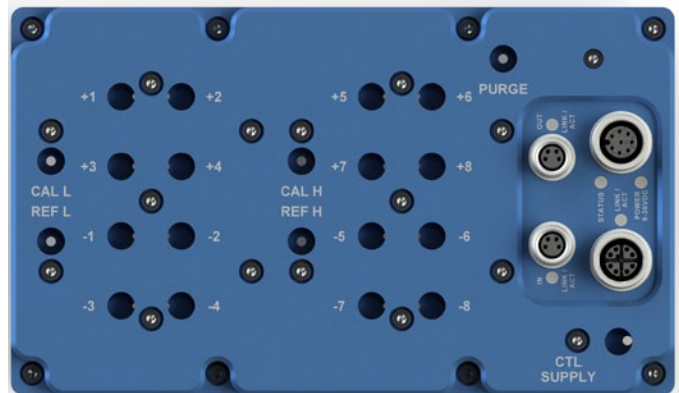

FIGURE 2.5 - DSA5000 DUAL RANGE, TRUE DIFFERENTIAL 8DDR TOP VIEW
where two pressure ranges are required, the DSA5000 Dual Range, True Differential 8DDR provides two (2) ports for each sensor, and 8 channels total (16 total inputs). They are arranged into two (2) groups of four (4) transducers. Each group can be of a different pressure range. A calibration valve is provided for each group of four (4) sensors. Similar to the True Differential module, each group of transducers has a dedicated calibration valve that allows the input pressures to be blocked off during any calibration, including a zero offset calibration (CALZ). In calibrate mode, the reference (negative inputs) will be shorted to a single reference port per group. Like the Dual Range 8DR module, the common ports are labeled CAL H and REF H (high, channels 5-8), and CAL L and REF L (low, channels 1-4). Standard configuration will place the lower pressure range in the “low” side, channels 1-8. This can be altered at the customers request. Figure 2.5 depicts the top panel of a DSA5000 Dual Range, True Differential 8DDR module.